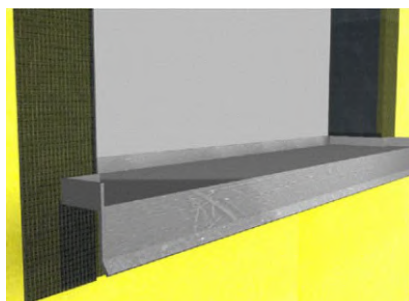

Figure 7
- Install a watertight pan flashing at all sill locations - Figure 7.
- The flashing shall extend a minimum of 2 1/2 in (64 mm) down over the face of the Outsulation Plus MD System - Figure 7.